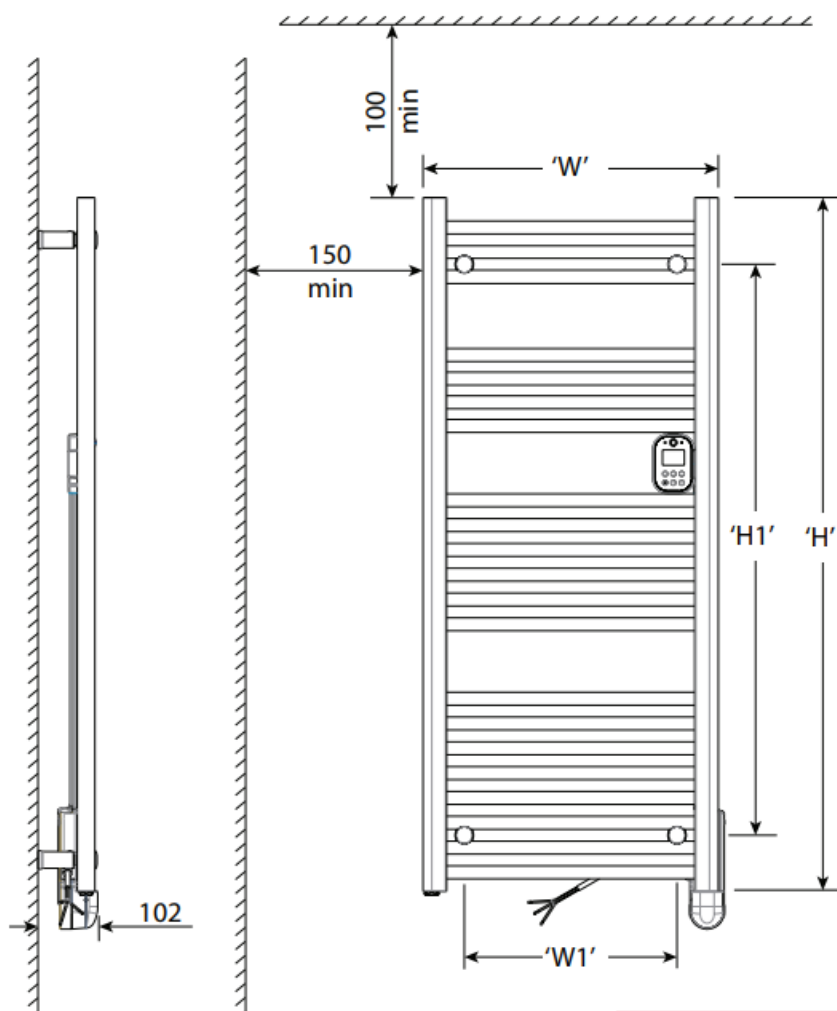

Fig. 1
See Fig.1. All dimensions are in mm.
IMPORTANT – The wall bracket kit supplied with the rail must be used and the rail must be installed in the correct orientation. The fixings should be used to secure the bracket to the particular wall on which the heater will be installed. The heater should be positioned observing the minimum clearances stated around the heater – see Fig. 1.
1. Mark suitable mounting hole positions for the fixing brackets (ensuring they are horizontal) – see Fig. 1, ensure to allow enough room above and below to maintain the minimum clearance stated.
5. Align the wall bracket sleeves on the towel rail according to the dimensions shown in Fig. 1.